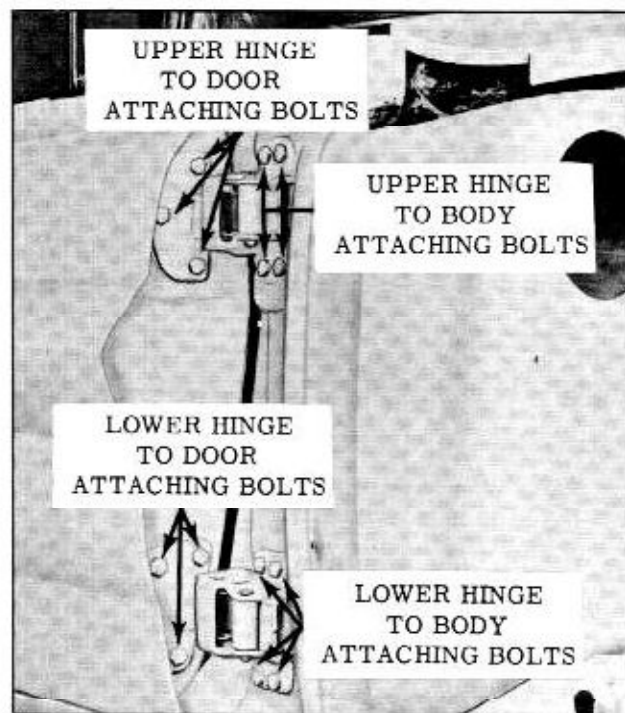

Fig. 17-25 Front Door Hinge Attachment
5. With door properly supported, remove bolts securing upper and lower hinges to front body hinge pillar or door hinge pillar. Then with aid of helper remove door assembly from body. (Fig. 17-25)
1. For in and out or up and down adjustments, loosen hinge to door pillar attaching bolts. (Fig. 17-25) Adjust door as required and tighten bolts.
2. To adjust door fore or aft, remove hinge pillar cover, then loosen hinge to body pillar attaching bolts. (Fig. 17-25) Adjust door as required and tighten bolts.